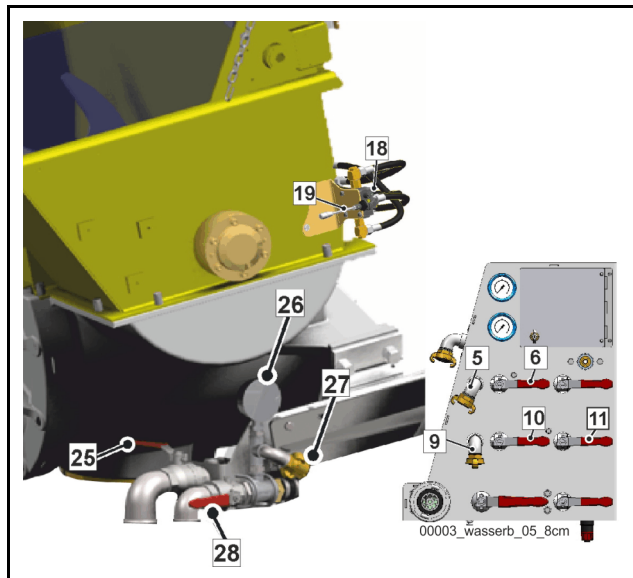
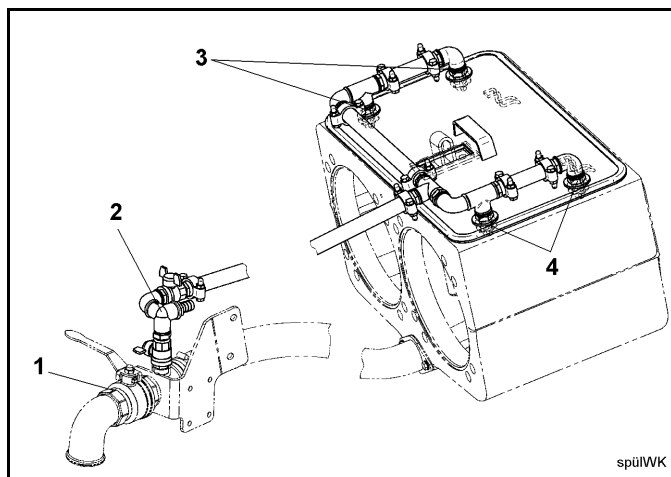

Fig. 132 Rear of the machine
Fig. 133 Flushing the water box
- Open the drain cock (25) (**Fig. 132**) on the water box at the rear of the machine.
- Start the water pump and route pressurised water into the spraying nozzles (3) (**Fig. 133**) of the water box by switching the corresponding ball valves (11) (**Fig. 132**) at the rear of the machine and (2) (**Fig. 133**).